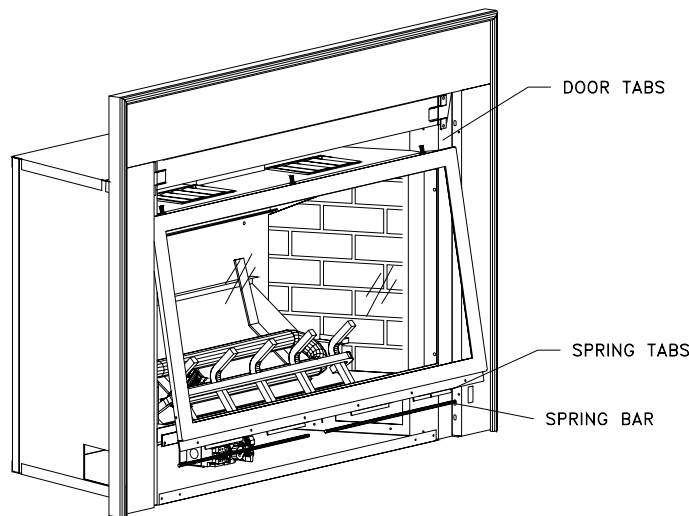

FIGURE 6
1. Remove Glass. - ALWAYS LIGHT PILOT WITH GLASS REMOVED! (see Fig. 6 pg. 10)